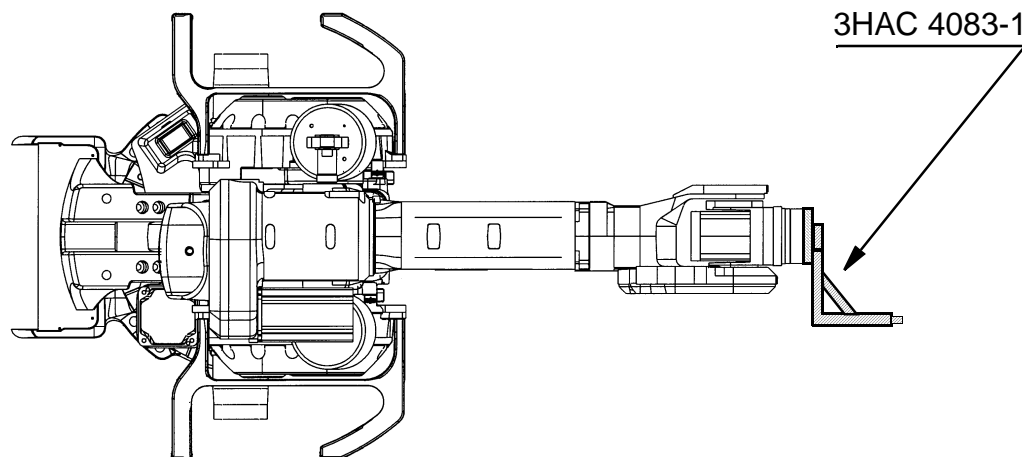

Figure 24 Tool 3HAC 4083-1 mounted on the mounting flange, robot in calibration position.
4. Mount the calibration tool, 3HAC 4083-1, onto the mounting flange of the robot as shown in Figure 24.